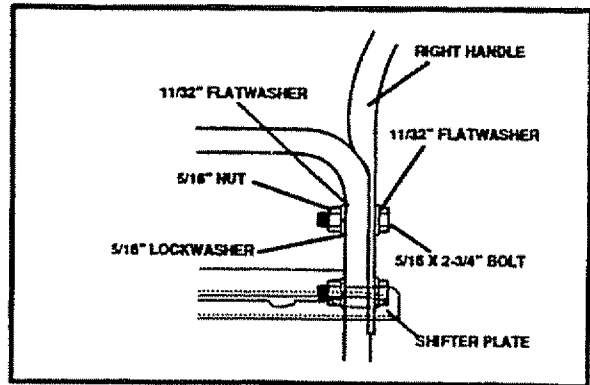

FIG. 4A
- Tighten the screw, flatwasher, lockwasher and hex nut at the upper right hand hole only (See Fig. 4A).